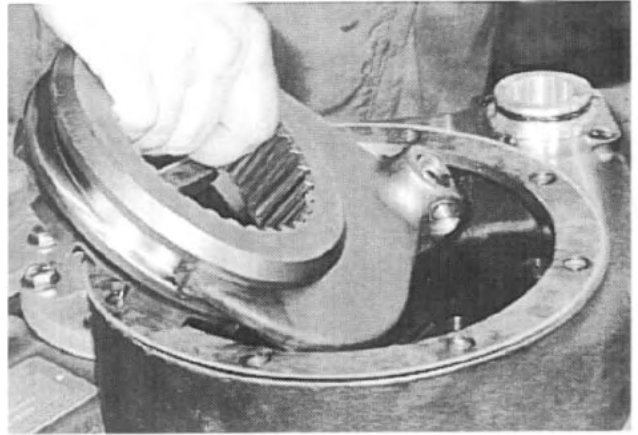

Fig. 77
18. Install the front declutch shift fork and front declutch sliding gear into the declutch housing. *See Fig. 77.*